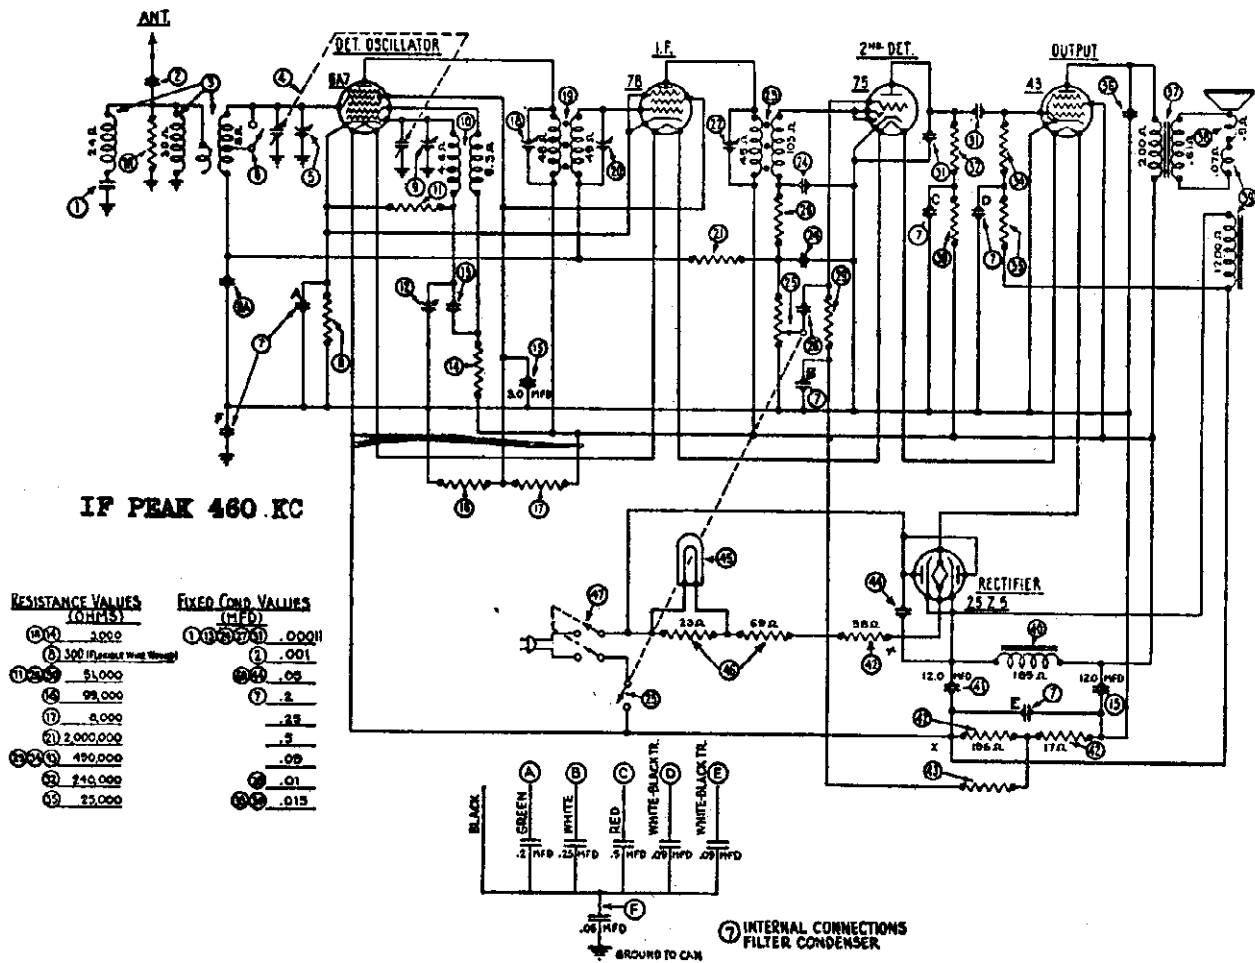

Fig. 3—Schematic Wiring Diagram
NOTE—Due to filaments in series, test with suitable A. C. voltmeter across the two points on Resistor ④ marked with an X in Fig. 3.
NOTE—Due to filaments in series, test with suitable D. C. voltmeter across the two points on Resistor ② marked with an X in Fig. 3.